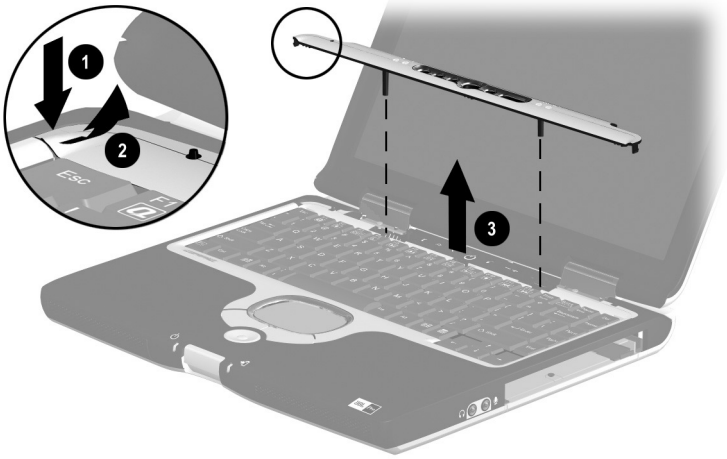

Figure 5-13. Removing the LED Cover
6. Press the **ESC** key to reveal the notch **1** in the LED cover (Figure 5-13).